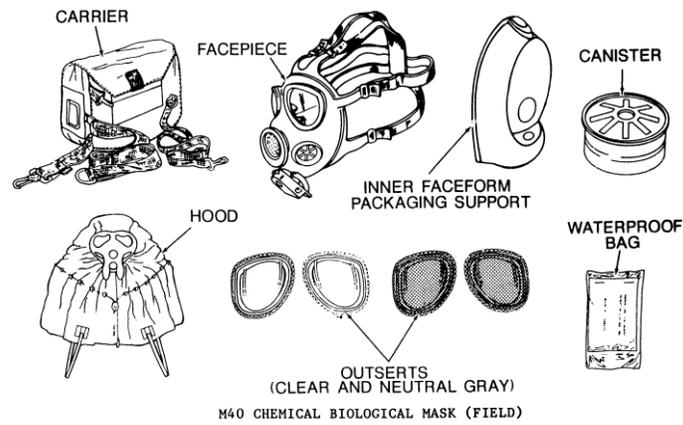

Figure 1
- (1) The M-40 FPM is used to protect the individual's face, eyes, and lungs against field concentration of chemical and biological (CB) agents, toxins and radioactive fallout particles.
- (2) The M40 FPM will not protect the wearer against industrial gases such as ammonia, carbon monoxide. It is not effective in confined spaces, where the oxygen content of the air is low.
- (3) The M40 FPM allows the wearer the capability of drinking water while worn.
- (4) The M40 FPM comes in three (3) sizes small, medium, and large. The size mark is located on the top left portion of the mask.
b. **Components of the M-40 FPM** - When you receive a FPM you should inspect the following components for serviceability (See fig. 1):
- (1) **Face-piece Assembly** - Visually inspect outside and inside for the following:
- (2) **Head Harness** - Visually inspect for the following:
- (3) **Eye-lenses, Eye-rings and Out-serts** - Remove out-serts from face-piece and inspect for the following: